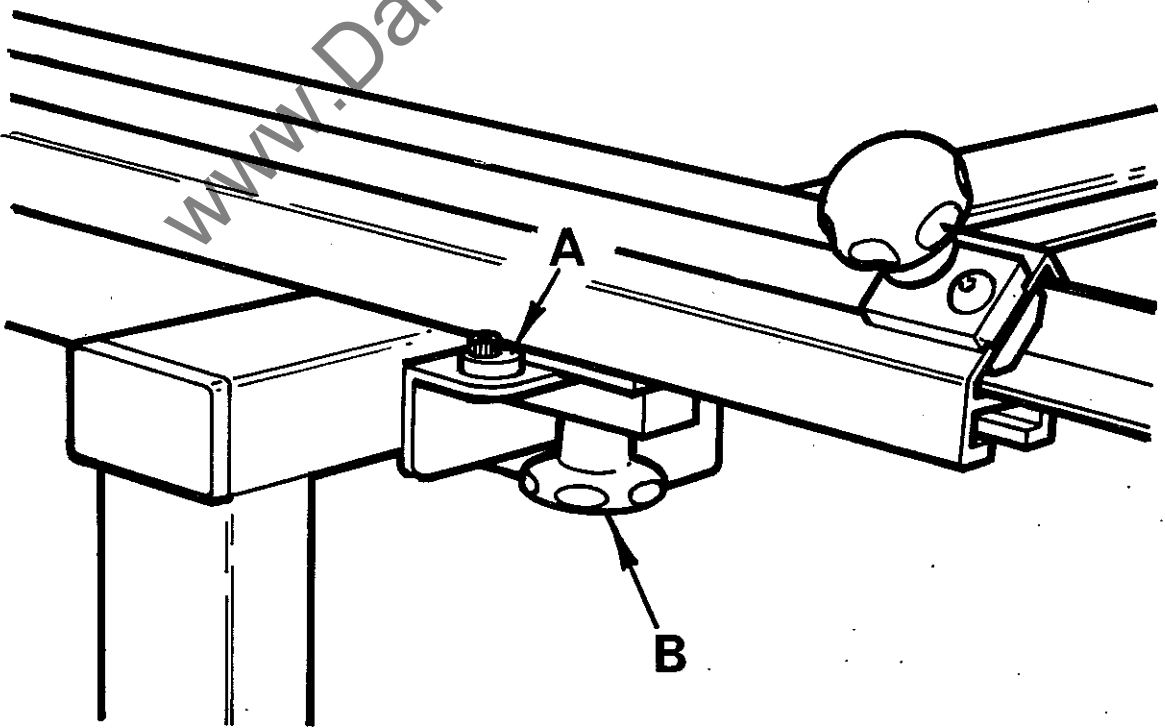

FIG 8
3. Locate outer end of fence against pre-set bobbin "A" in FIG 8 and secure by handwheel "B".